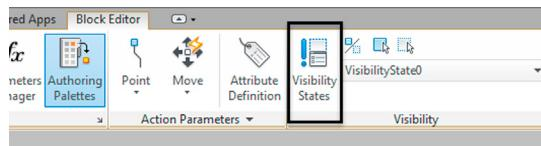
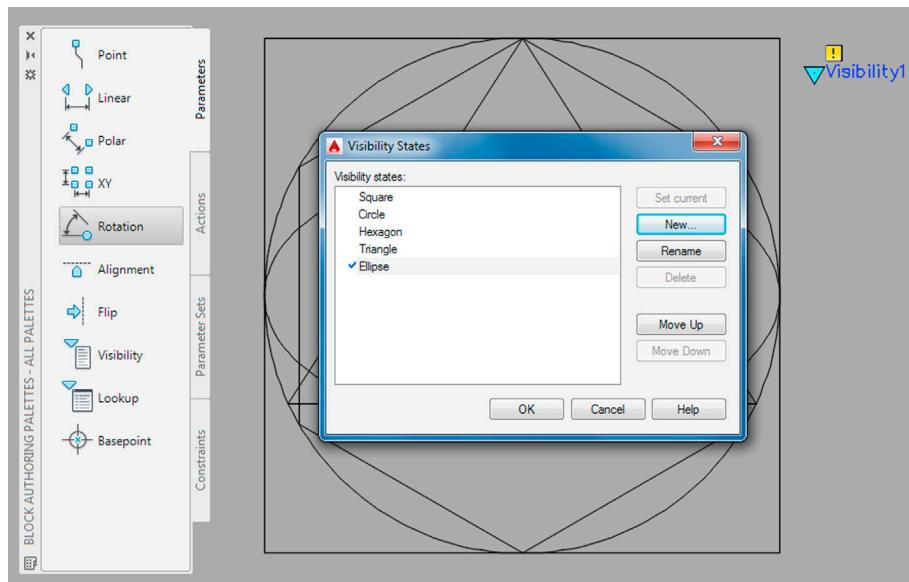
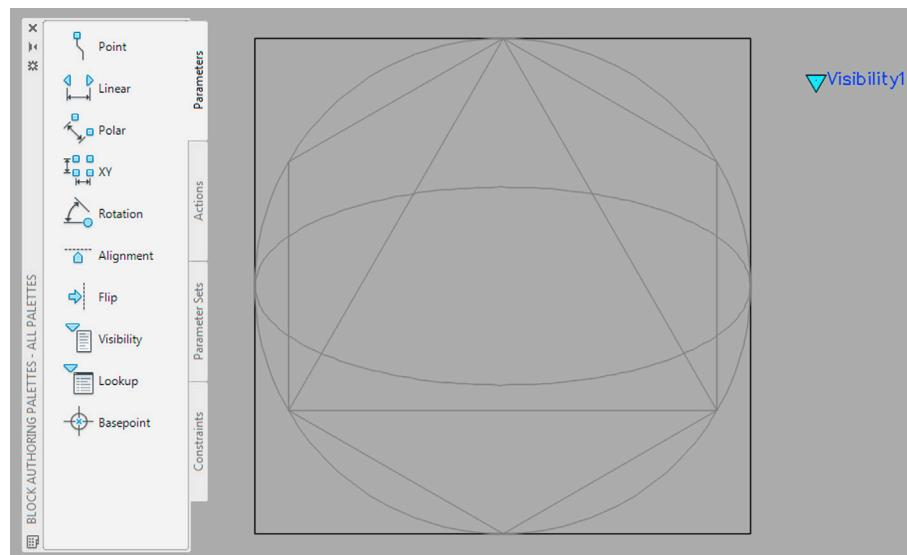

FIGURE 7.22 Visibility States button.
FIGURE 7.23 Visibility States completed.
FIGURE 7.24 Square visibility state.
Step 4. Select the Visibility States button in the Ribbon's Block Editor tab, Visibility panel (Fig. 7.22). The Visibility States dialog box appears. Rename the existing state to Square and add the other four via the New... button (leaving any options as default in the dialog box). The result is seen in Fig. 7.23. Press OK.
Step 5. You now need to actually set the invisibility parameter of each visibility state. Go up to the Ribbon and find the drop-down menu just to the right of the Visibility States button (it can be seen in Fig. 7.22.). Drop it down and double-click on the Square state. It is now the current visibility state, and it is here that you need to make all the other shapes invisible. To do that, press the button just above the drop-down menu called *Make Invisible* (it looks like a faded square with an arrow and can also be seen in Fig. 7.22.). AutoCAD says Select objects to hide:. Go ahead and pick *all* of the shapes *except* for the square. The selected shapes all fade to a gray color, as seen in Fig. 7.24.